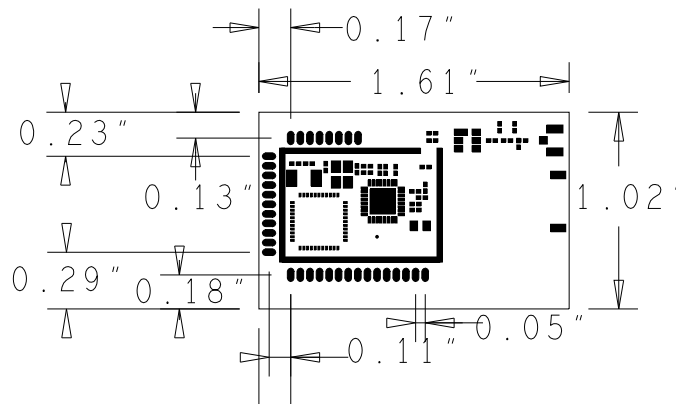

Figure 2. ZAURA RF Wireless Module Dimensions, Top View
Top- and side-view dimensions of the Module are shown in Figures 2 and 3.
► **Note:** Figures 2 and 3 refer to the 868MHz Module but are identical for the 915MHz Module.